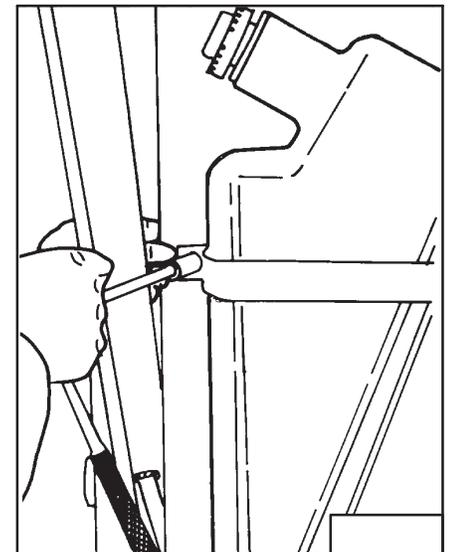

Fig. 5-52 Removing Nut
6. Remove the nut holding the strap on (Fig. 5-52).
2. Connect the strap to the bolt and tighten the nut (Fig. 5-52).